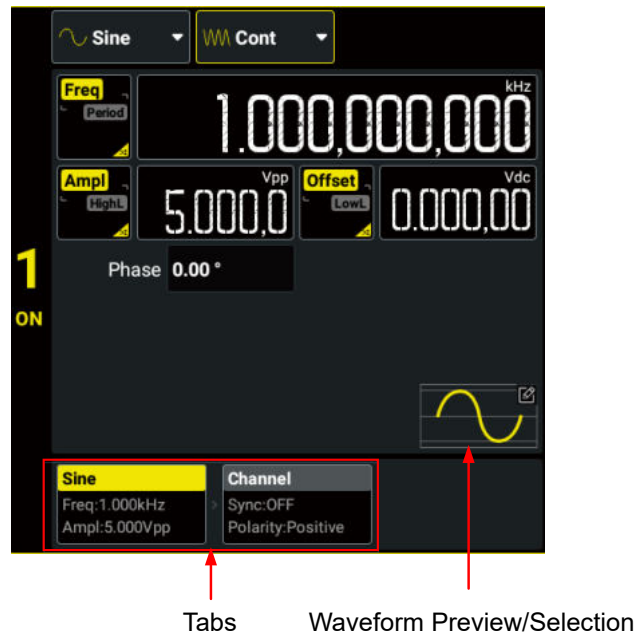

Figure 5.1 Continuous Setting Interface
- In the Continuous Setting Interface (*Figure 5.1*), click or tap the "Wave Type" drop-down button to select "Sine".
- In the Continuous Setting Interface (*Figure 5.1*), click or tap the "Waveform Preview/Selection" area and then select **Sine** in the displayed built-in waveform selection menu.
- In the Continuous Setting Interface (*Figure 5.1*), click or tap the "Wave Type" drop-down button to select "Square".
- In the Continuous Setting Interface (*Figure 5.1*), click or tap the "Waveform Preview/Selection" area and then select **Square** in the displayed built-in waveform selection menu.
You can also click or tap the "Channel" tab in Figure 5.1 interface to access the channel setup interface to configure channel output. For details, please refer to Channel Setup.
- In the Continuous Setting Interface (Figure 5.1), click or tap the "Wave Type" drop-down button to select "Ramp".
- In the Continuous Setting Interface (Figure 5.1), click or tap the "Waveform Preview/Selection" area and then select **Ramp** in the displayed built-in waveform selection menu.